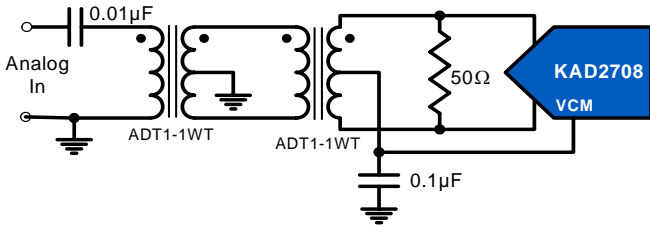

FIGURE 23. TRANSFORMER INPUT, GENERAL APPLICATION
Best performance is obtained when the analog inputs are driven differentially. The common-mode output voltage, VCM, should be used to properly bias each input as shown in Figures 23 and 24. An RF transformer will give the best noise and distortion performance for wideband and/or high intermediate frequency (IF) inputs. Two different transformer input schemes are shown in Figures 23 and 24.